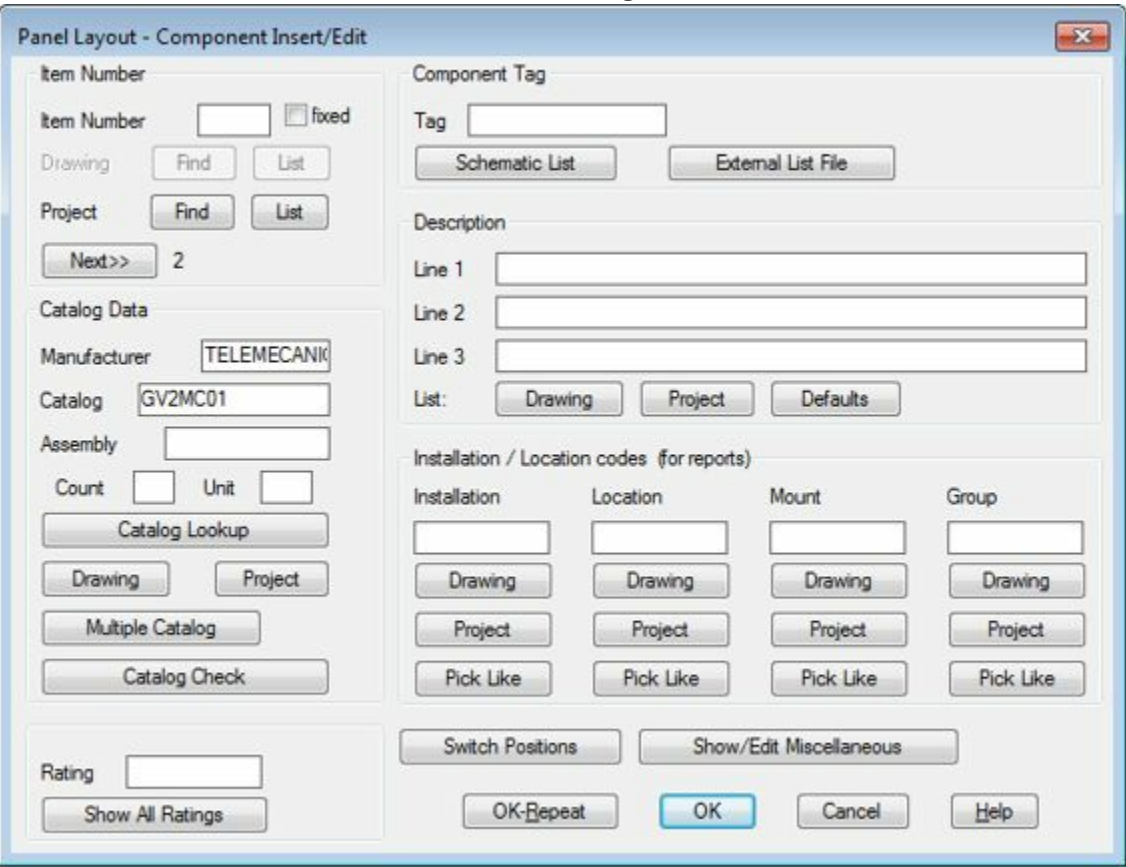

Figure-28. Panel Layout dialog box
- Specify the rotation as **0** and press **ENTER**. The **Panel Layout-Component Insert/Edit** dialog box will be displayed; refer to Figure-28.